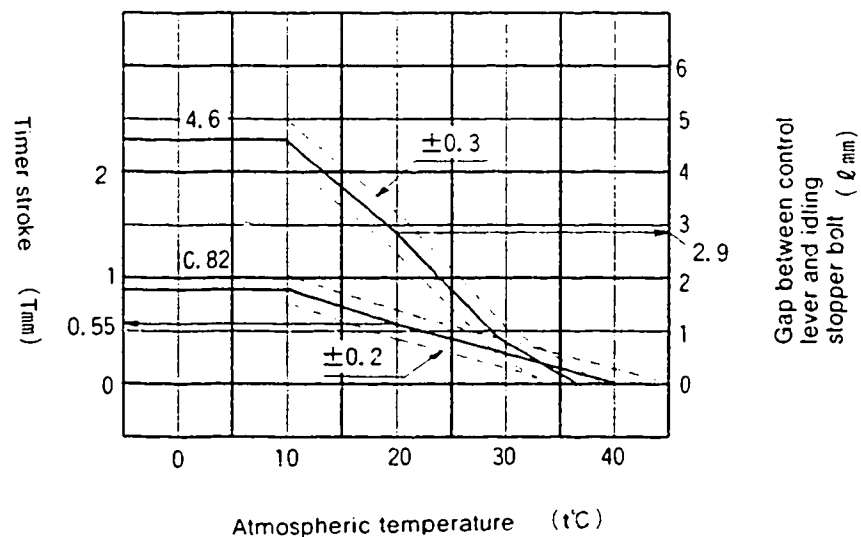

Fig. 2
1. Calculate the timer stroke from Fig. 2 according to the atmospheric temperature at the time of adjustment.
1. Calculate the block gauge dimension  $\ell \pm 0.05\text{mm}$  from Fig. 2 according to the atmospheric temperature at the time of adjustment.
## Formula for calculating Fig. 2